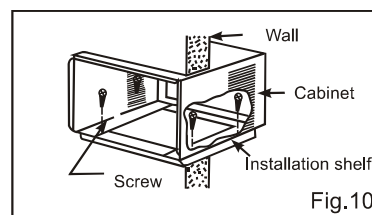

Fig.10
- 5) Install the air conditioner cabinet on the installation shelf (not included) with screws.(Fig.10)